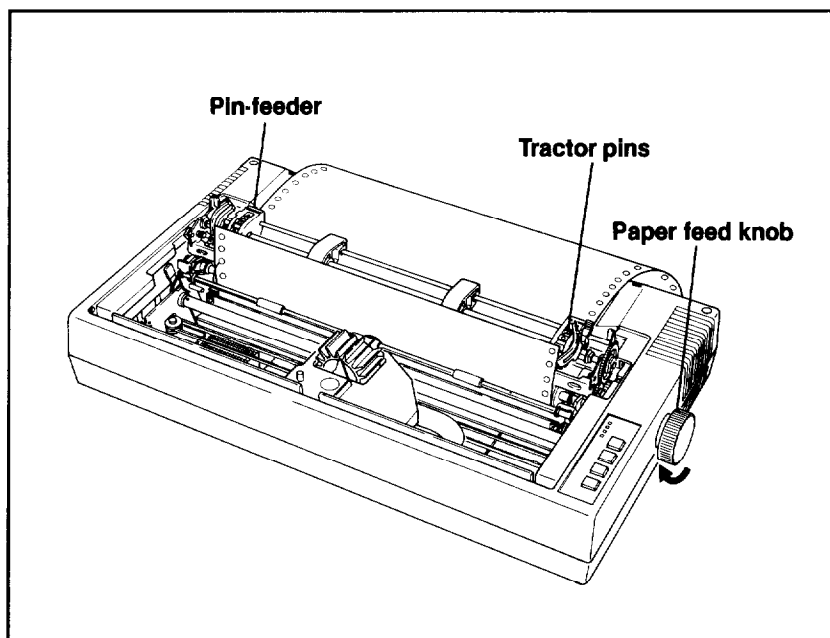

Figure 3-7. Aligning pin frames
2. Stop turning and release the platen release lever (pull it forward) when the top of the paper reaches the two pin-feeders. The paper should now be free to move without using the paper feed knob (see Figure 3-7).